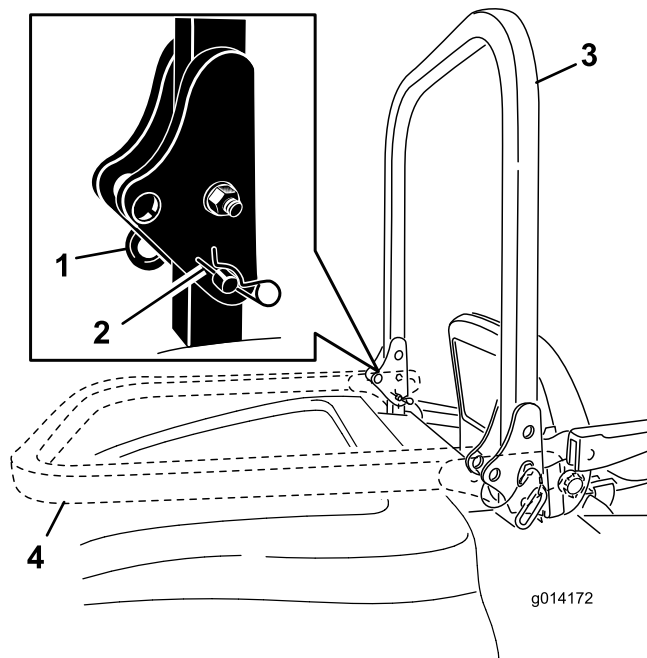

Figure 8
1. To lower the roll bar, remove the hairpin cotters, push the roll bar forward against the springs, and remove the two pins (Figure 8).
4. To raise the roll bar, remove the hairpin cotter pins and remove the two pins (Figure 8).
5. Raise the roll bar to the upright position and install the two pins and secure them with the hairpin cotter pins (Figure 8).